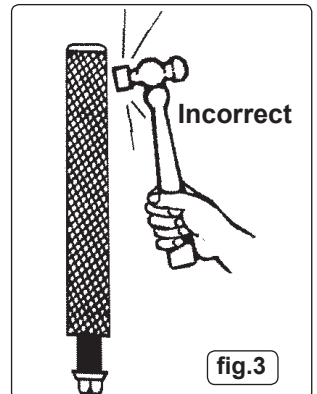

fig.3
- x **DO NOT** strike the side of the driver body (fig.3).